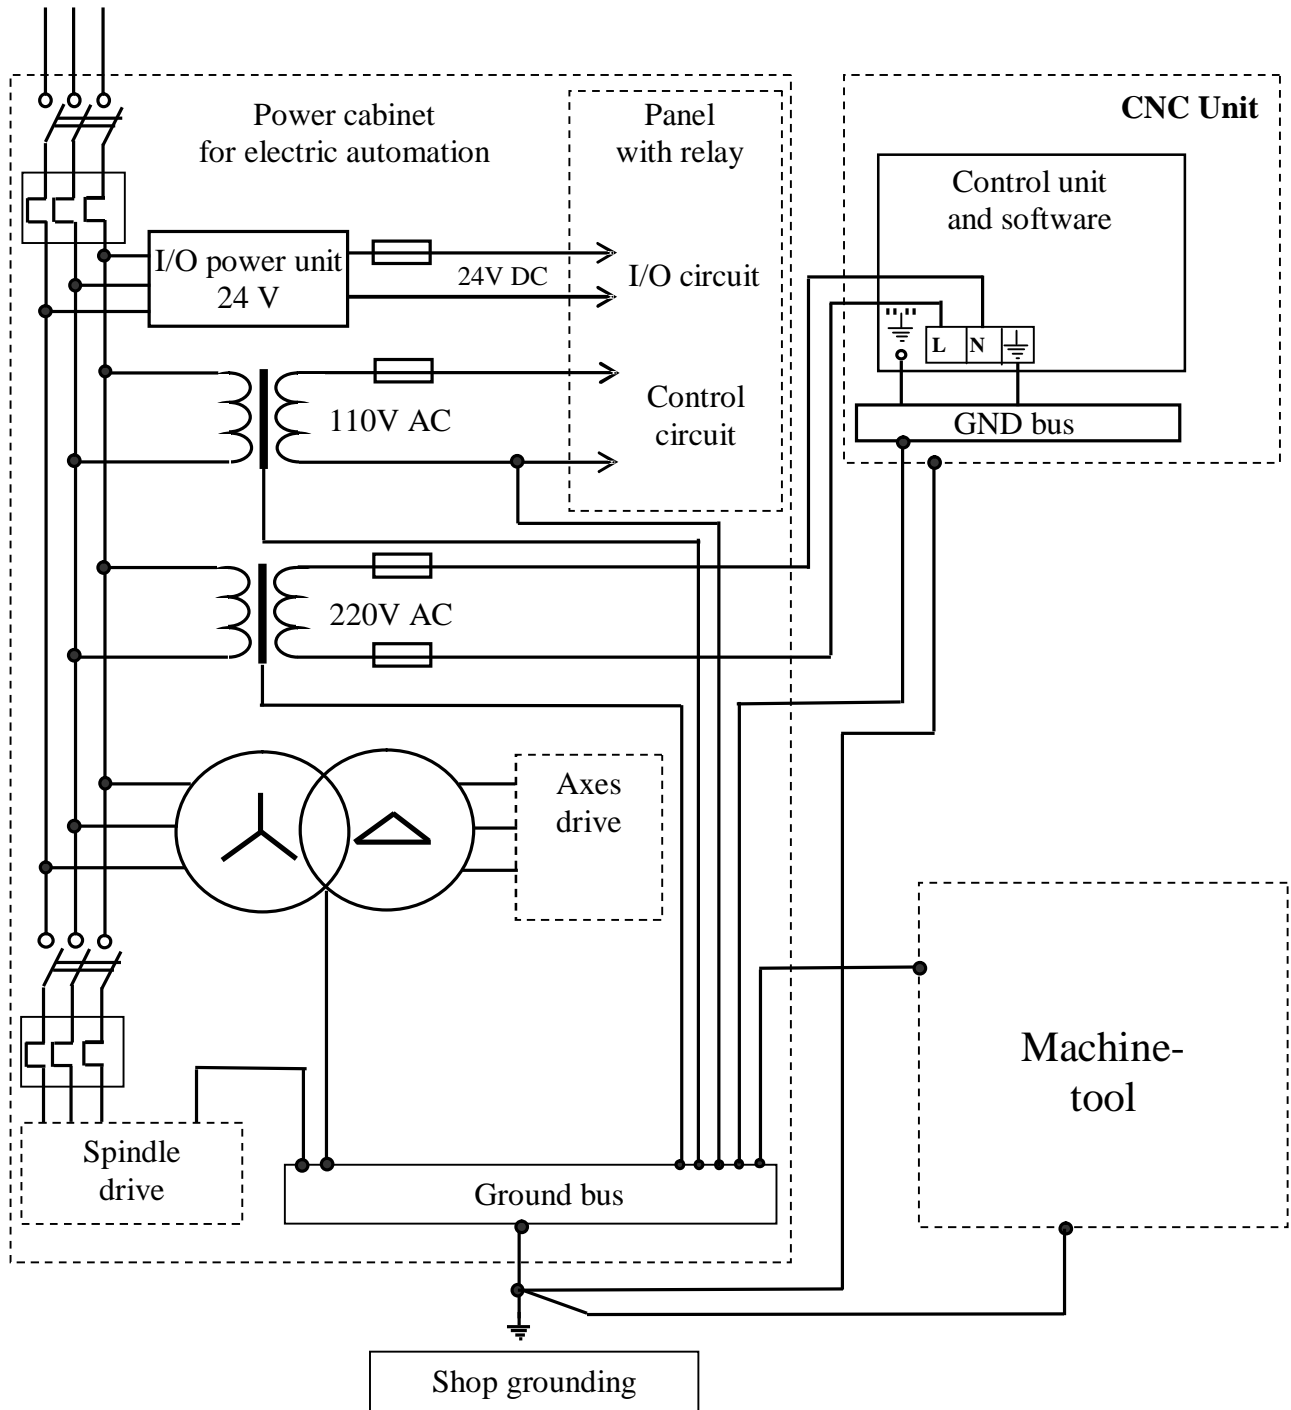

Figure F.1
16.1 The diagram for the connection of the CNC Unit to the machine is shown in Figure F.1.